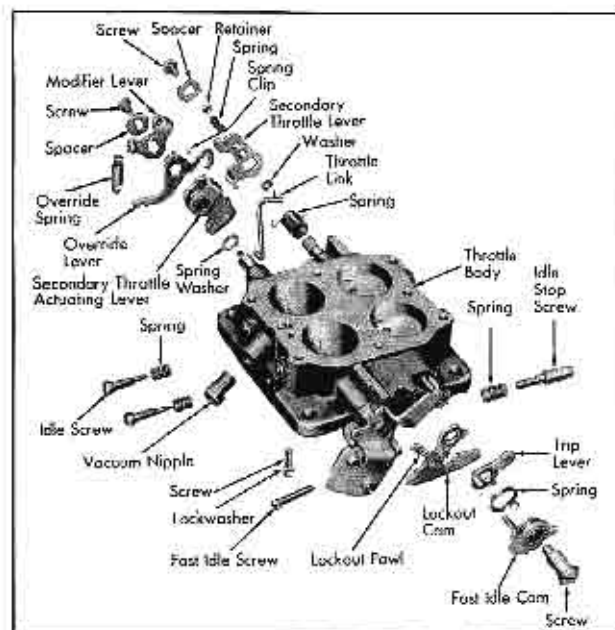

Fig. 12-53 Throttle Body Disassembled
1. Assemble spring washer, secondary throttle actuating lever, override lever with spring and modifier lever, spacer, and retaining screw onto choke housing end of primary throttle shaft. Refer to Figs. 12-53 and 12-54 for assembly details.
3. Install throttle link with washer on inside of secondary throttle lever, fasten with spring and retainer. Short leg of link goes into center hole of secondary throttle actuating lever and retain with spring clip. See Figs. 12-53 and 12-54.
4. Referring to Fig. 12-53, assemble fast idle